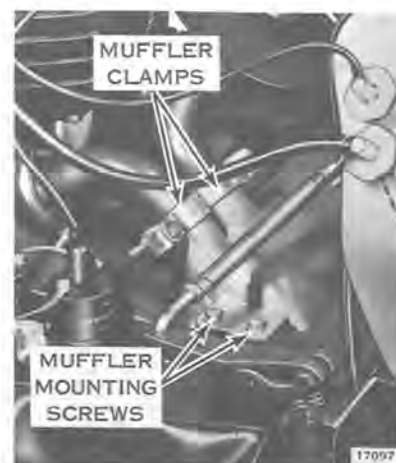

Figure 9-27
2. Loosen muffler clamp screws and loosen exhaust pipe to muffler clamps. See Figure 9-27.
4. Install the muffler clamp so that it covers the slots in the muffler inlet and hangs over the inlet by 1/8". See Figure 9-27.